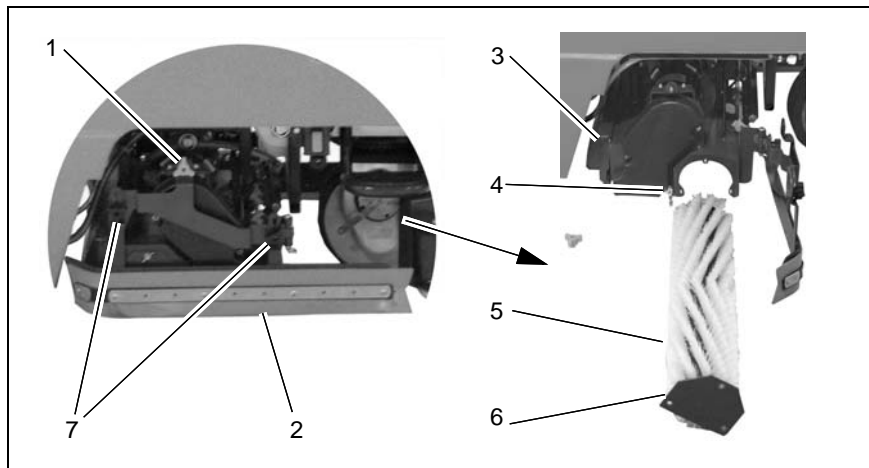

Fig.14
Unscrew the latching handles (Fig. 14/1) and pivot the sealing strip (Fig. 14/2) up. Then remove the waste bin (Fig. 14/3) to the side and clean it.
2. Remove the knobs (Fig. 14/4), pull out the brush (Fig. 14/5) and remove the bearing cap (Fig. 14/6). Clean the brush.
Check the height of the sealing strip and readjust, if necessary. Release the height adjustment knobs (Fig. 14/7) and secure the sealing strip at the required height. Change the sealing strip, if necessary. To do this, remove the retaining screws and remove the sealing strip. Installation is carried out in the reverse sequence.